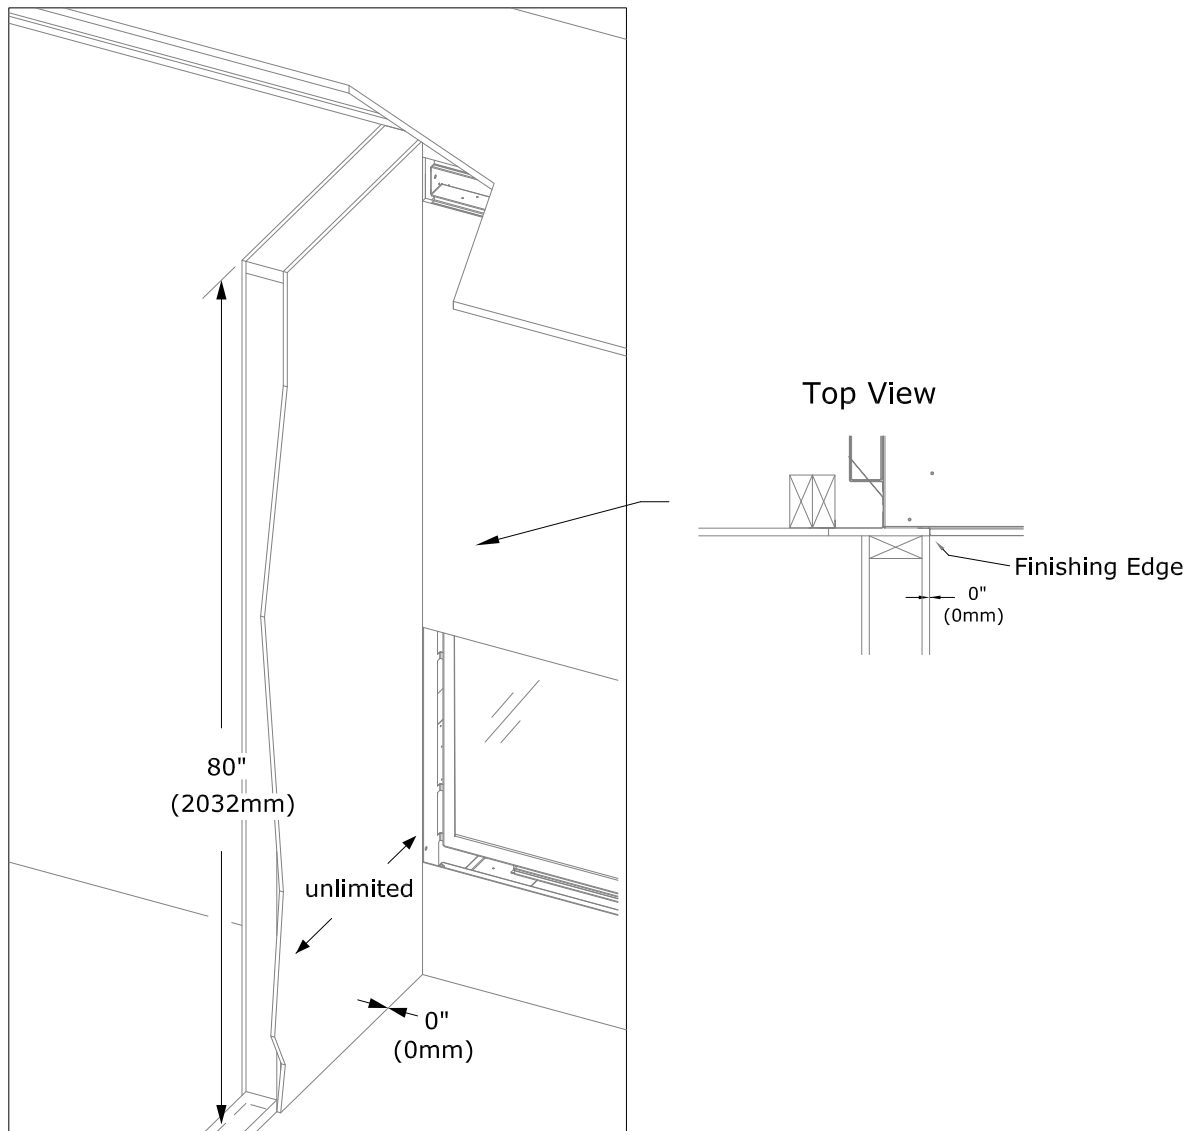

Figure 3.12 - Nordik 60TL Combustible Sidewall Requirements
- Mantel Leg: Follow "Combustible Sidewall Clearance" below. See Figure 3.12.
- Combustible Sidewall Clearance: The adjacent sidewall projection is unlimited and starts at 0" (0mm) from the side of the fireplace. See Figure 3.12.
- Figure 3.12 shows the unlimited sidewall projection where it is the minimum of 0" (0mm) away from the side fireplace finishing edge. This places the sidewall flush with the KZK plenum opening and flush with the side fireplace finishing edge.